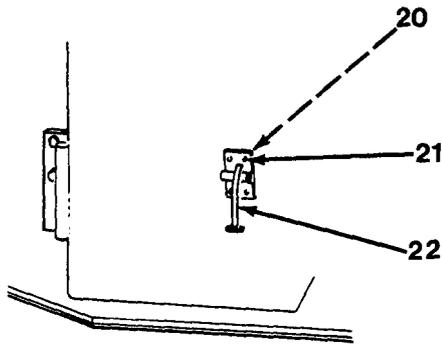
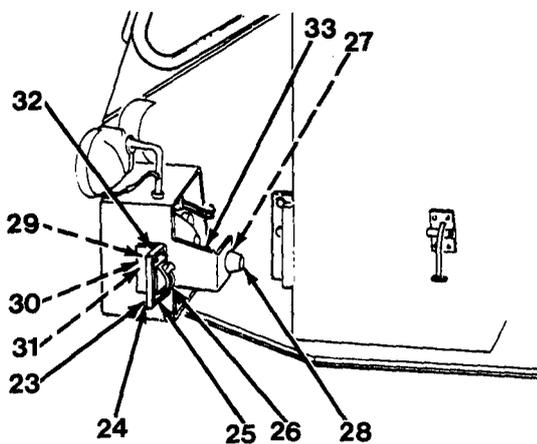

Figure 14-5
Figure 14-6
8. Remove four nuts (20), screws (21) and door latch (22, Figure 14-5).
9. Remove four nuts (23), washers (24), screws (25) and door latch plate (26, Figure 14-6).
10. Remove nut (27) and bumper (28).
11. Remove two lock nuts (29), washers (30), bolts (31), plate (32) and bracket (33).
1. Install bracket (33), plate (32), two bolts (31), washers (30) and lock nuts (29, Figure 14-6).
2. Install bumper (28) and nut (27).
3. Install door latch plate (26), four screws (25), washers (24) and nuts (23).
4. Install door latch (22), four screws (21) and nuts (20, Figure 14-5).